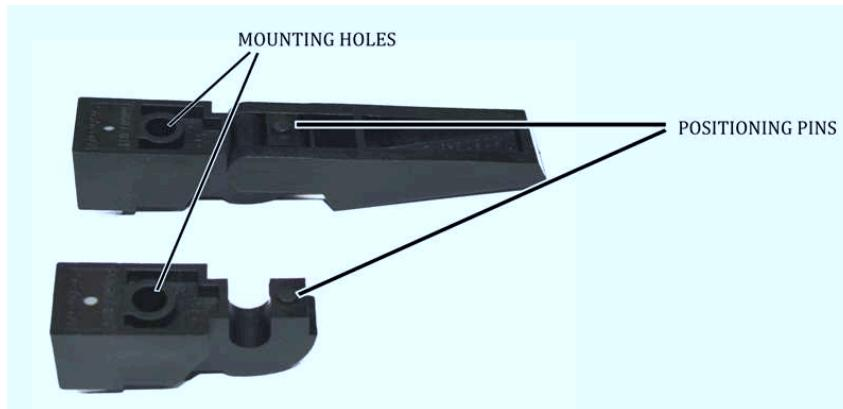

Figure 2.1: Feet
1. Locate marked points (Fig. 2.1).